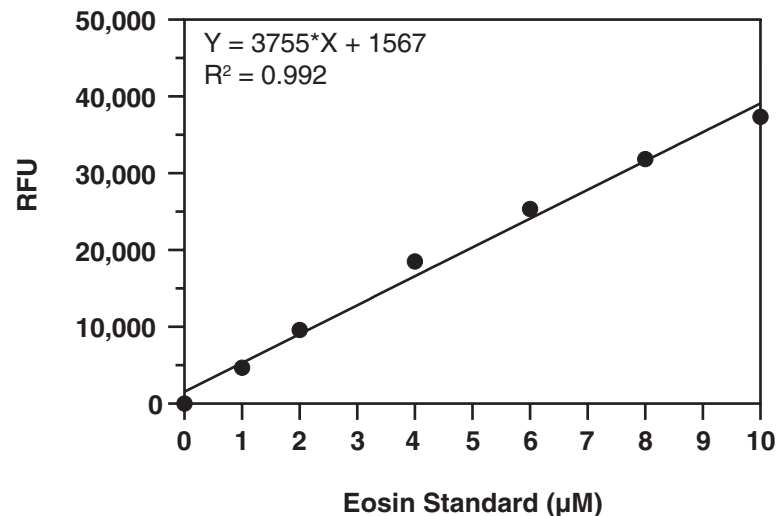

Figure 3. Eosin standard curve
- Plot the average relative fluorescence unit (RFU) of each standard as a function of the final concentration of eosin from Table 1. The slope of this curve is called f-slope. See Figure 3, for a typical standard curve.